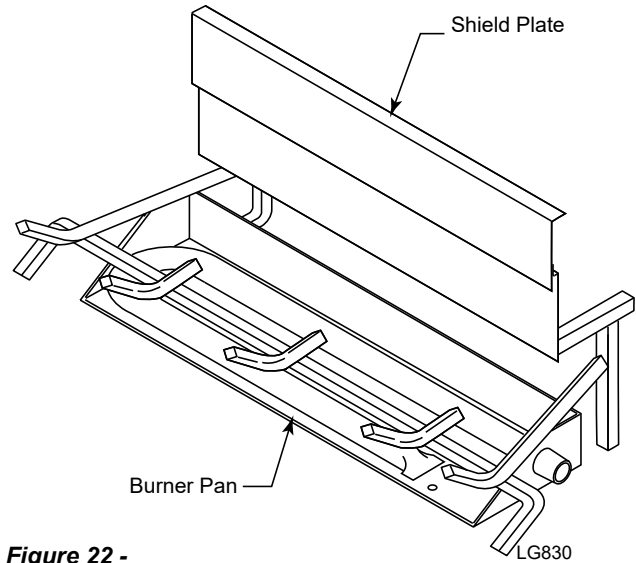

Figure 22 -
1. Slide shield plate behind burner pan. *Figure 22*